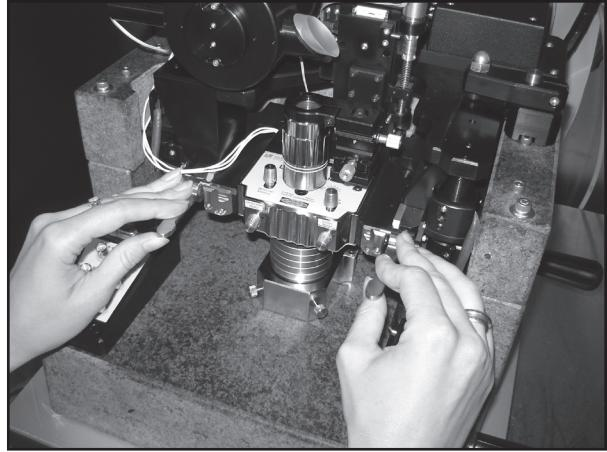

Figure 4.7: Turn the knobs to release the scanner head
2. When motor movement is complete, remove the sample puck. Rotate the probe exchange knobs on the side of the scanner head backwards [away from you] 1/4 turn [Figure 4.7]. The scanner head is now able to slide forward about an inch.